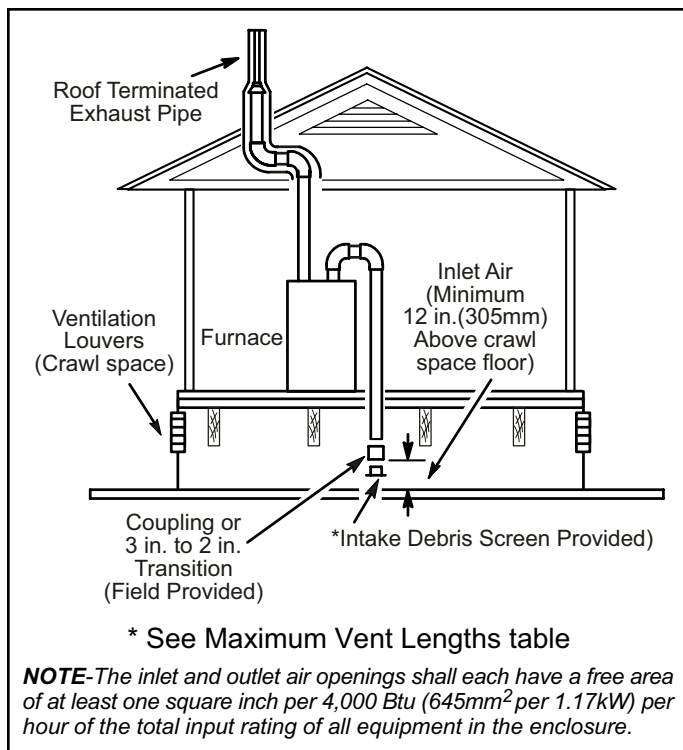

Figure 32.
2. If intake air is drawn from a ventilated attic (Figure 31) or ventilated crawlspace (Figure 32) the exhaust vent length must not exceed those listed in Table 5C. If 3" diameter pipe is used, reduce to 2" diameter pipe at the termination point to accommodate the debris screen.